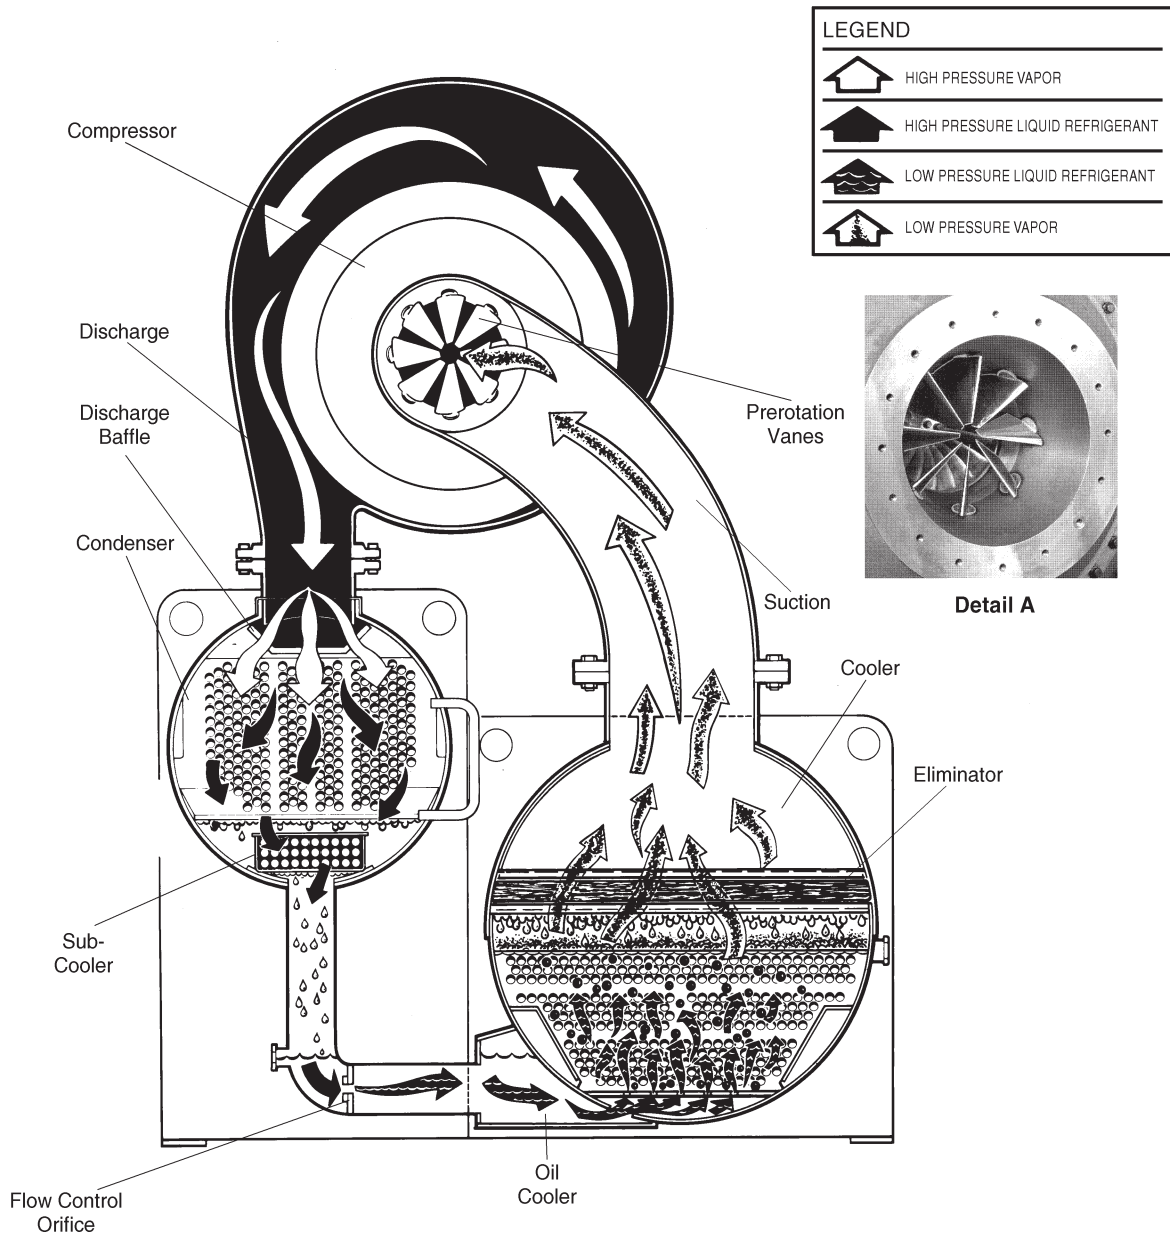

Figure 2.2 YK Refrigerant Flow Diagram
2.2 Capacity Control (Figure 2.2)